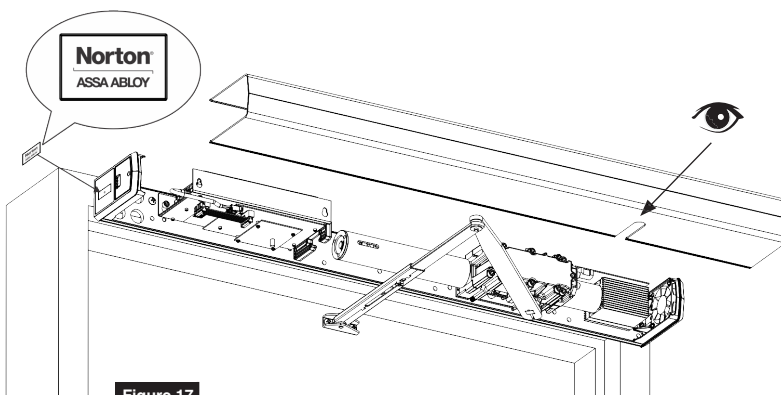

Figure 17
1. Align cut-outs in cover to pinion shafts. (Figure 17)
4. Attach a Norton label plate to each end cap by snapping into place by hand with gentle pressure. (Figure 17)